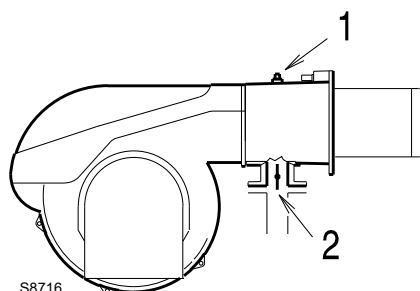

Fig. 25
Gas pressure measured at the test point 1)(Fig. 25), with:
Pressure loss at gas butterfly valve 2)(Fig. 25) with maximum opening: 90°.
- Subtract the combustion chamber pressure from the gas pressure measured at test point 1)(Fig. 25).
$$\begin{aligned} \text{Gas pressure at test point 1)(Fig. 25)} &= 23.3 \text{ mbar} \\ \text{Pressure in combustion chamber} &= 3.0 \text{ mbar} \\ 23.3 - 3.0 &= 20.3 \text{ mbar} \end{aligned}$$
To know the required gas pressure at test point 1)(Fig. 25), set the maximum output required from the burner operation, then:
- Read, on the right (column 1) the socket pressure 1)(Fig. 25).
pressure required at test point 1)(Fig. 25).